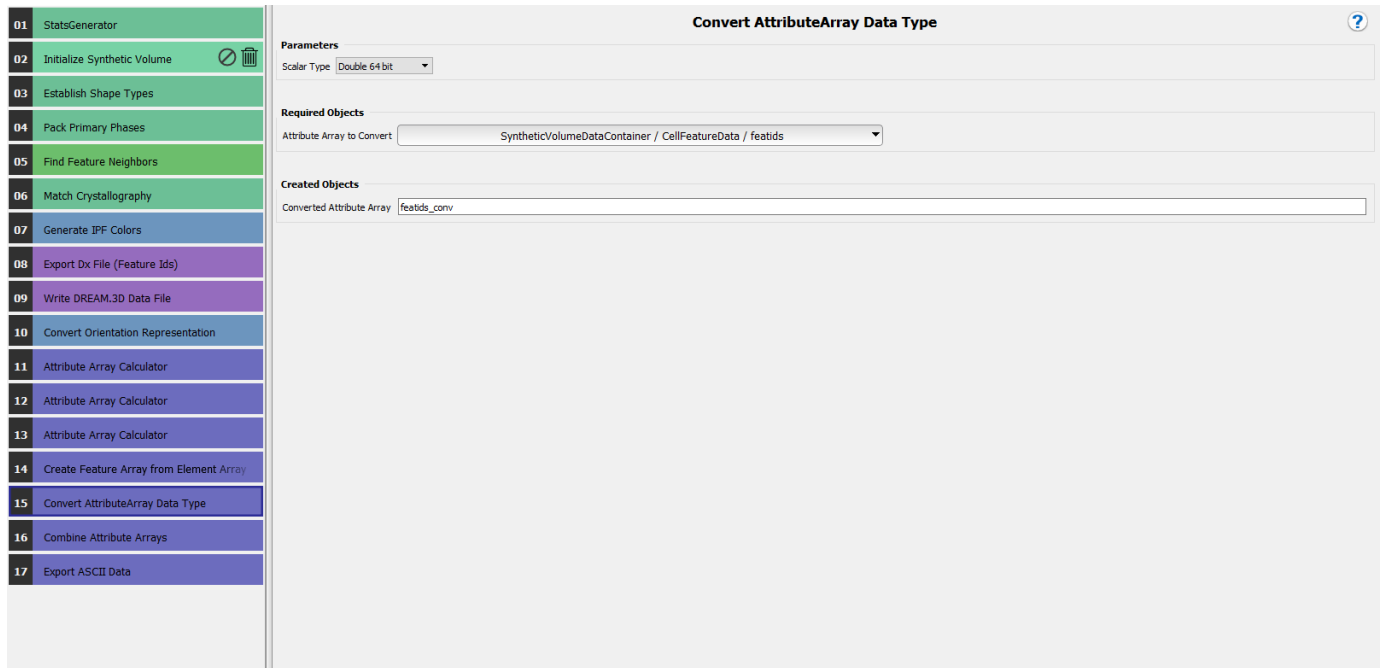

Figure 18: Convert attribute array data type
16. We now wish to combine the feature ids and the Rodrigues vector into a single data container so that we can write it to an output file. However, the two data types don't currently match because the feature ids are 32 bit integers while the Rodrigues vectors are of type double. A conversion to data type double needs to be performed. To accomplish this, copy the **Convert AttributeArray Data Type** filter to the pipeline window. For **Scalar Type** choose **Double 64 bit**, for **Attribute Array to Convert** choose **SyntheticVolumeContainer / CellFeatureData / FeatureIds**, and name the **Converted Array Attribute** as **featids_conv**(Fig. 18). Any name can be specified though.